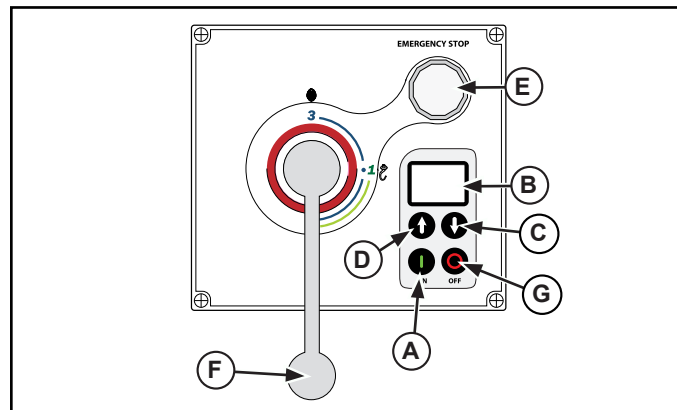

Figure 7. 40 Quart Mixer Control Panel.
2. Select the desired operating speed based on the ingredients. Use the speed select lever (F) to set the speed. See Figures 7 or 8.
3. Once the speed has been selected, press the on/off button to start the mixer. Or, select a time by pressing the time up button (D) or time down button (D). Press the on/off button.